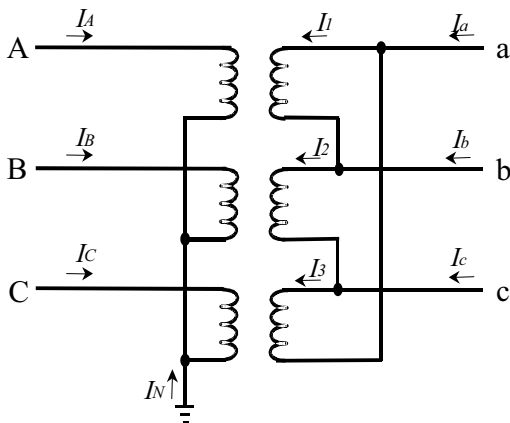

Figure 4.6 Delta-Wye Circuit
**Io-Elimination** – Refer to Figure 4.6. And Section 4.3.5 on page 49
**Io-Correction** - Refer to Figure 4.6. And Section 4.3.5 on page 49